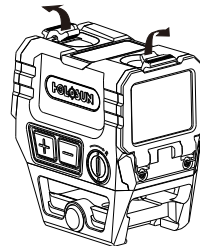

Fig 9
1. As shown in Figure 9, the AEMS includes transparent front and rear lens covers. Use of the AEMS is not affected when the lens covers are closed.